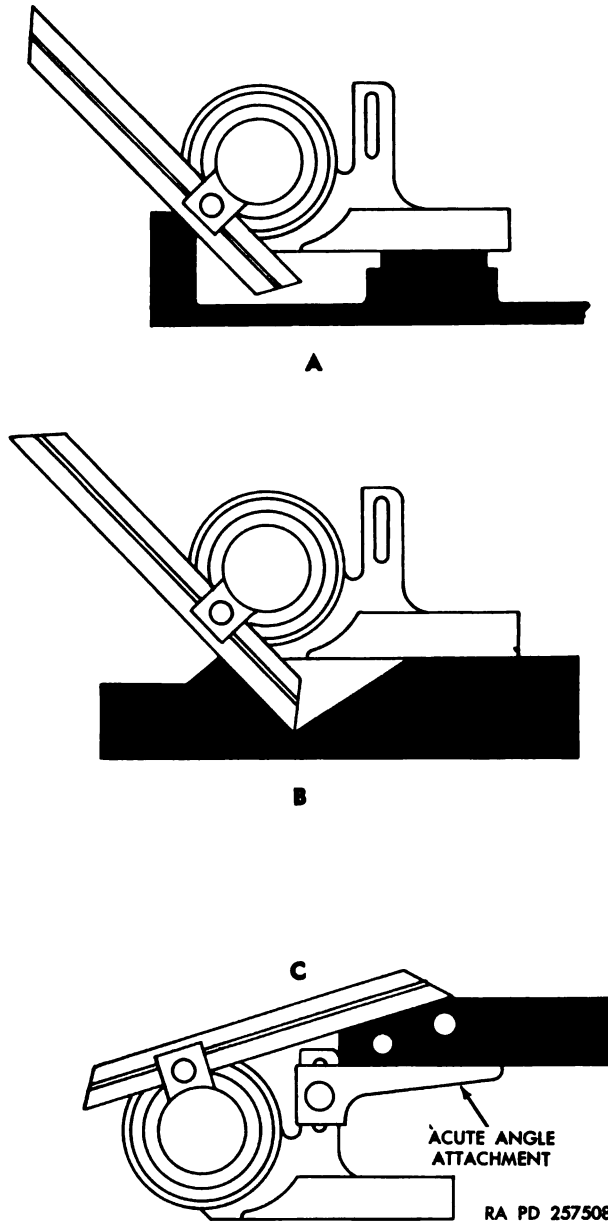

Figure 38. Using bevel protractor.
(2) *Application.* A, figure 38 shows the bevel protractor being used to meas-
ure the angular clearance on a ring gear. The bevel protractor can be used to establish an angle and determine its relationship to other surfaces as shown in B, figure 38. The acute angle attachment is attached to the slotted extension of the dial and is used as shown in C, figure 38 to accurately measure acute angles.